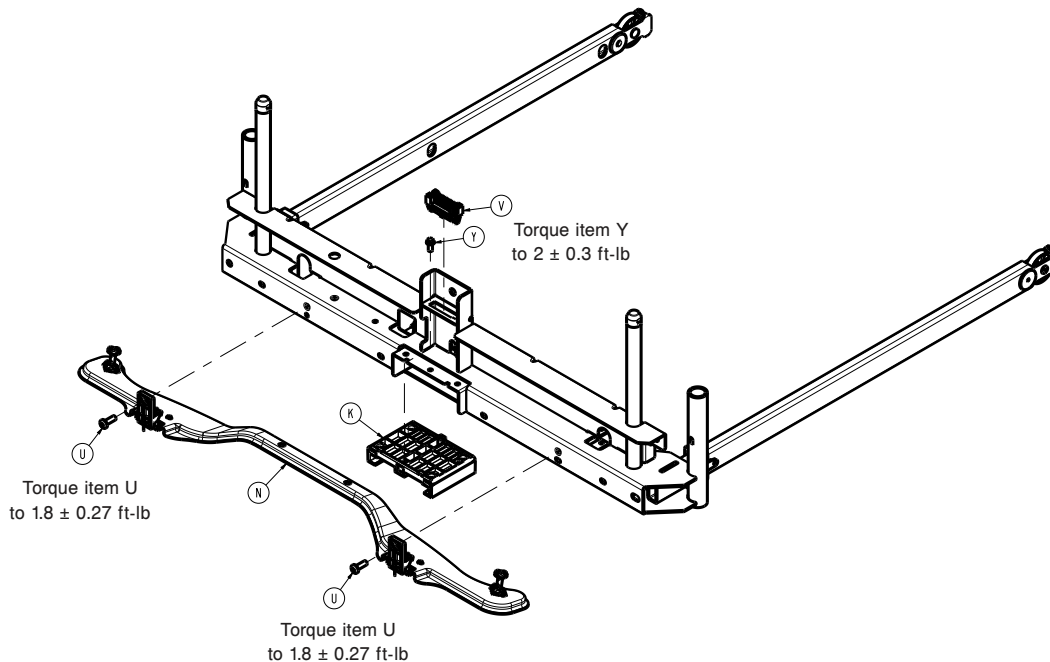

Figure 37 – Replacing the footboard litter connector
12. Unclip the cable from the blind mate connector (V) (Figure 37).
13. Squeeze the left and right blind mate connector (V) locking tabs to release the connector from the foot end frame (Figure 37).